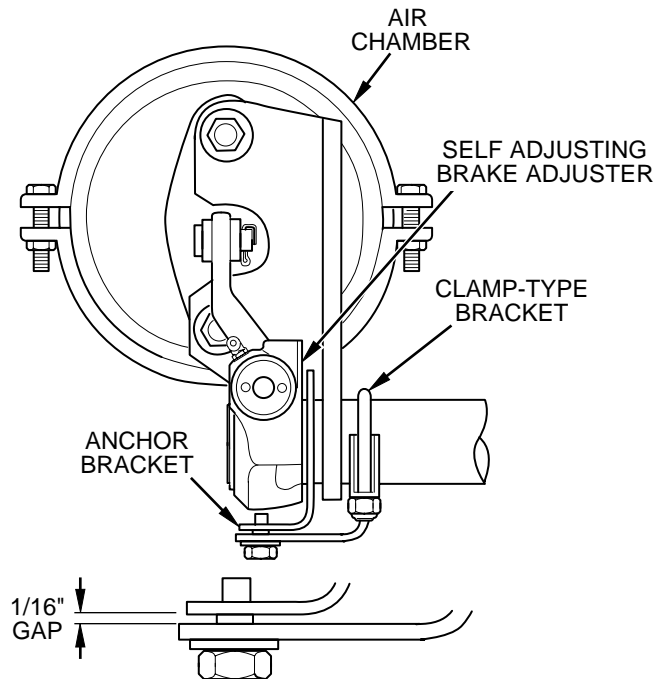

Figure 17 Proper Anchor Bracket and Control Arm Gap
**Note:** Steer axle applications only—a gap of 1/16" should be maintained between the anchor bracket and the control arm. (See Figure 17.)